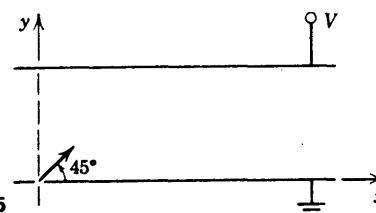

Figure 4.15
6. An electron with an energy of 200 eV is projected at an angle of 45° into the region between two parallel plates carrying a voltage V and separated a distance $d = 5 \text{ cm}$. (See Fig. 4.15.)
7. If the polarity of the upper plate in Fig. 4.15 is reversed so that $V = +200 \text{ V}$, determine where the electron will strike.